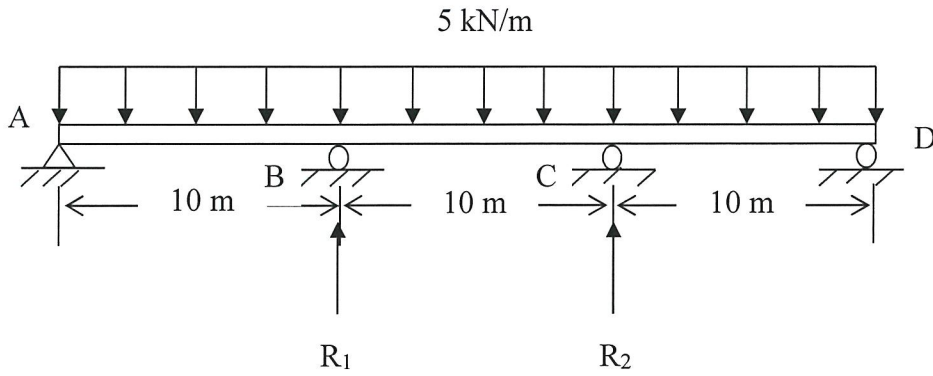

FIGURE Q1
- Q1** (a) A continuous beam as shown in **FIGURE Q1** is supported by pin at point A and roller at points B, C, and D. The beam is loaded with distributed load of 5 kN/m on its whole span. The load causes support B to settle 0.005 m and support C to settle 0.01 m. The modulus of elasticity, E , of the beam is 200 GPa and the moment of inertia is $1.35 \times 10^{-3} \text{ m}^4$. By using force-displacement method and taking B and C as redundants, determine: